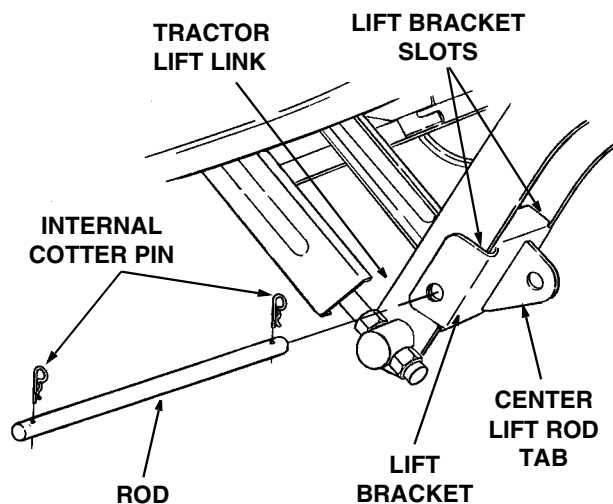

Figure 3
When installing the lift bracket (8), the tractor lift links must be positioned **within** the slots at each side of the lift bracket, with the center lift rod tab of the bracket positioned as shown in Figure 3.
4. Install the lift bracket (8) onto the tractor lift links, align the holes, and insert the rod (7) through the lift bracket and lift links. Install an internal cotter pin (14) in the other end of the rod (See Figure 3).
4. Fasten the lift bracket (8) onto the implement lift links by sliding the rod (7) through the bracket and links, and secure with the internal cotter pin (14). Refer to Figure 3.